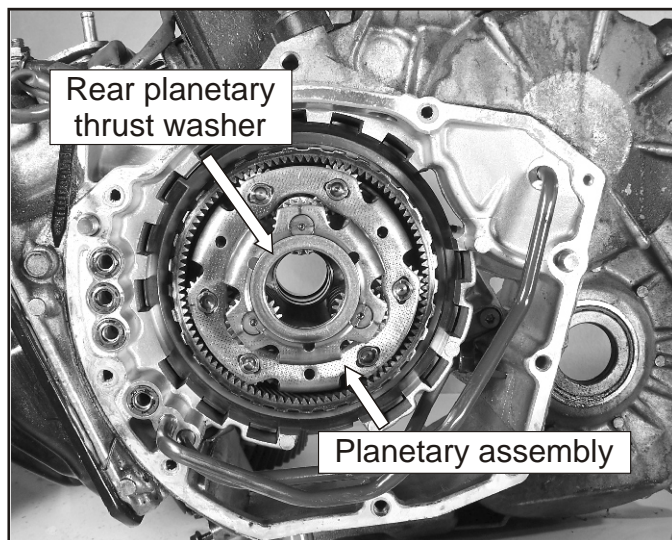

Figure 77
26. Remove the rear planetary thrust washer and planetary assembly as shown in Figure 77.